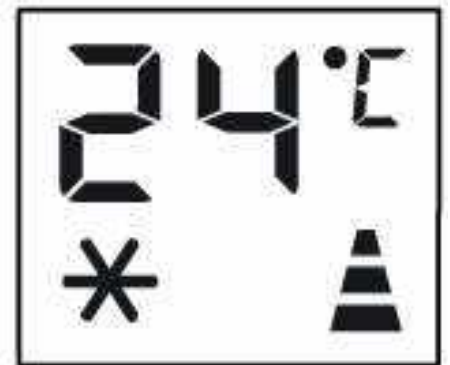

Fig 7
- Press again the  button or the  button, the timer will be cancelled, and the  will disappear from screen: (Fig. 7).